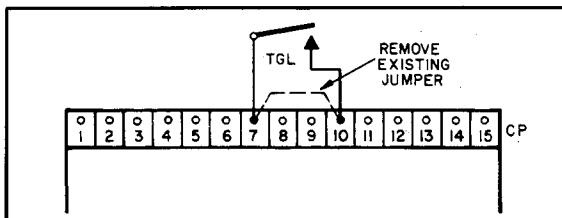

Figure 6. ACC. 29-V Connection
□ **Acc. 29-V** Reset switch to manually retransfer the automatic transfer switch to the normal source with automatic retransfer in event of emergency source failure. If **Feature 3-C** is used, wait until the time delay has expired before operating the reset switch. See Figure 6.